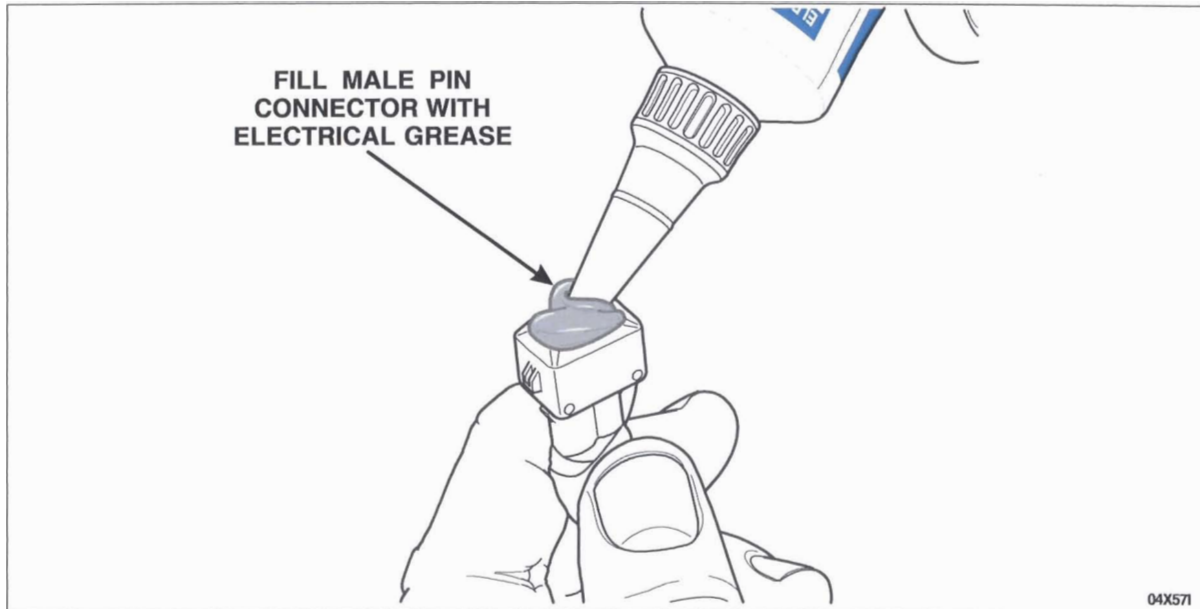

FIGURE 7
6. **Before installing the jumper harness, fill the vehicle harness end of the jumper (male pin connector end) with Motorcraft Electrical Grease II XG-15-A. See Figure 7.**